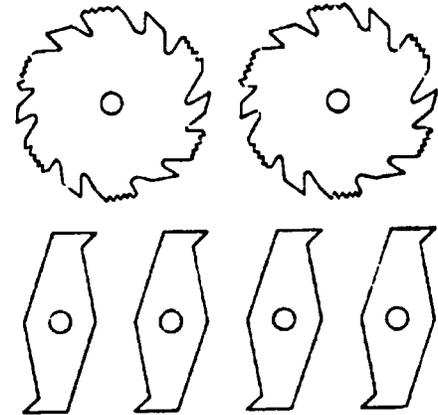
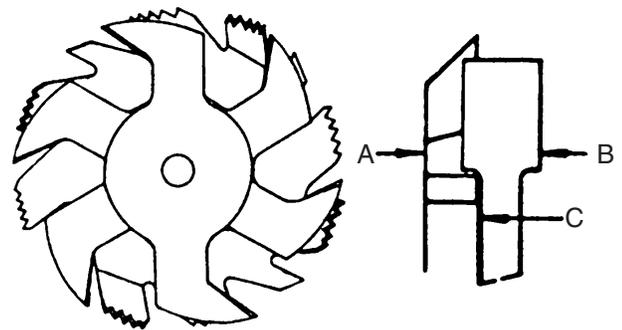

FIGURE 28
FIGURE 29
Dadoing is cutting a rabbet or a wide groove into the work. Most dado head sets are made up of two outside blades and four or five inside cutters, as shown in Fig. 28. Various combination of blades and cutters are used to cut grooves from 1/8" to 13/16" for use in shelving, making joints, tenoning, grooving, ect. The cutters are heavily swaged and must be arranged so that this heavy portion falls in the gullet of the outside blades, as shown in Fig. 29. The saw and cutter overlap is shown in Fig.29 (A) being the outside blade, (B) and inside cutter, and (C) a paper washer which can be used as needed to control the exact width of groove. A 1/4" groove is cut by using the two outside blades. The teeth of the blades should be positioned so that the raker on one saw is beside the cutting teeth on the other saw.